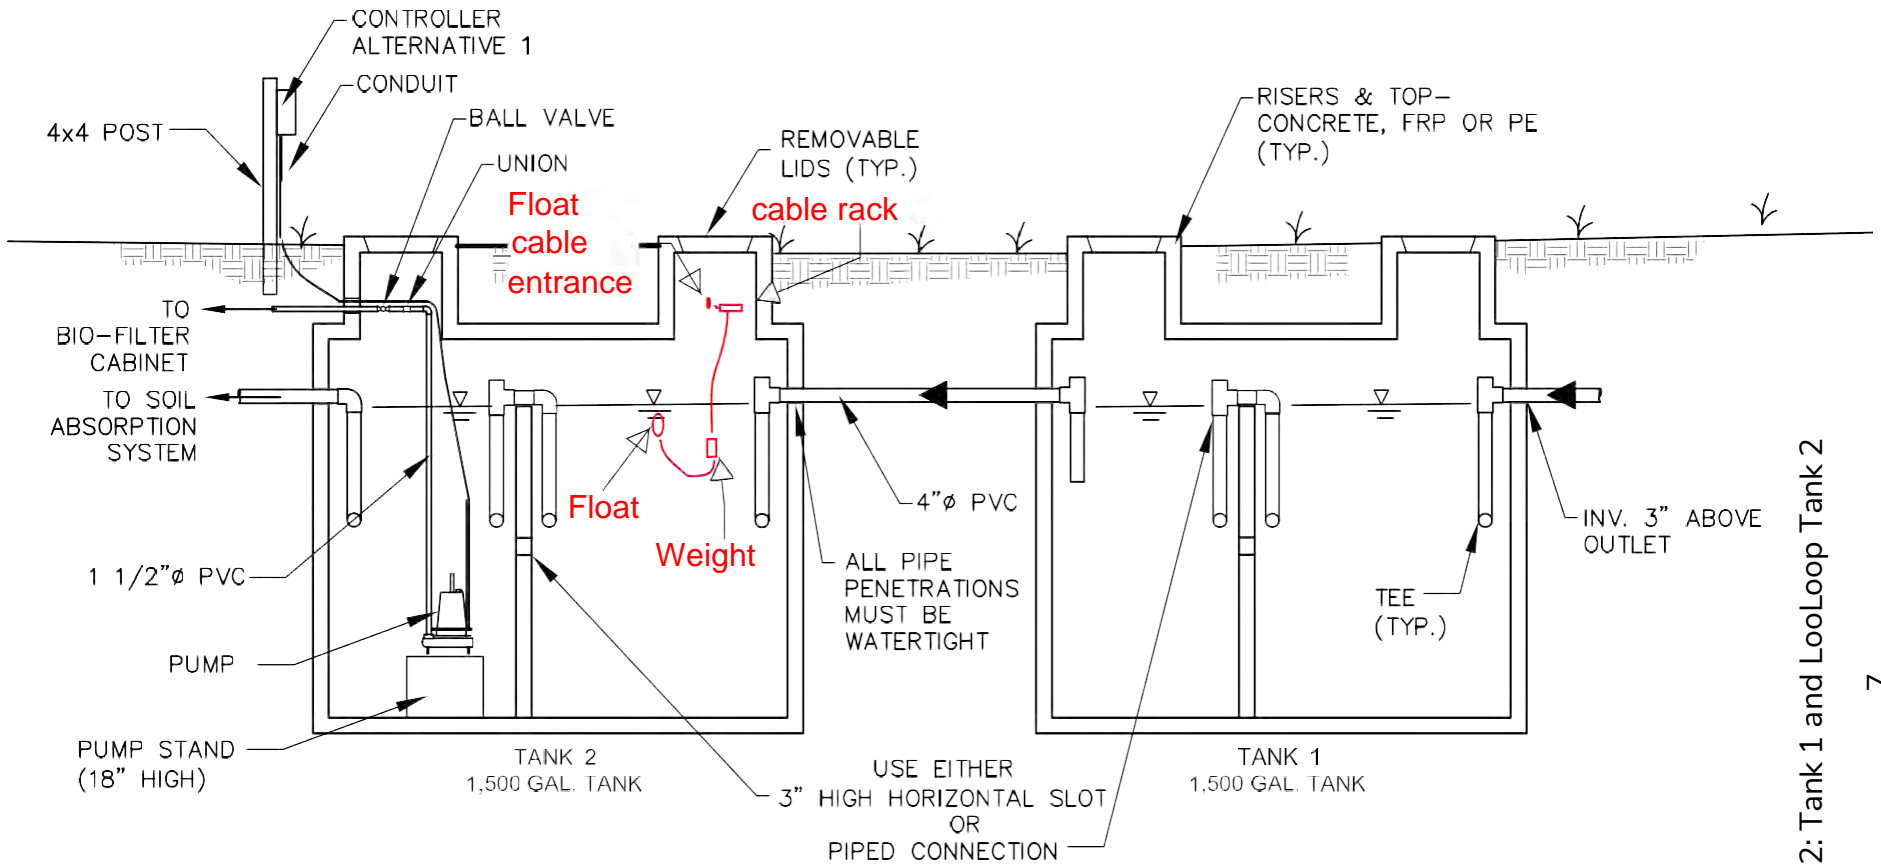

Figure 2: Tank 1 and LooLoop Tank 2
- The LooLoop tank needs to be installed level with a positive slope between the outlet of septic Tank 1 and the inlet to the LooLoop tank. The interconnection between the compartments should be at mid-depth by a transverse slot in the wall, a line of several holes through the wall across the tank, and/or a Tee saddle over the partition wall. All Tee inlets and outlets must be terminated with a Tee. The sidearm of the Tee should be connected to the vertical leg of the Tee saddle and the two through holes oriented perpendicular to the long axis of the tank. The tank installation details are provided in Figure 2.
Unpack the float level switch and counterweight located in the box with the process controller. To ensure the proper function of the float switch, it is necessary to secure the electric cable inside the tank as illustrated in Figure 2. The length of the cable measured between the fixture point and the body of the float switch assembly determines the total extension of the float. It is essential to ensure there are no obstructions in the float switch operational area before operation. During operation, adjustments to the float switch cable must not be made under any circumstances, due to the fact that any unwanted cable connections made while the float switch is immersed in liquid can lead to electric shock.